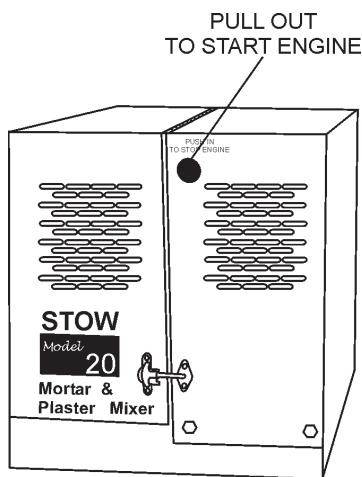

Figure 16. Start/Stop Switch (gasoline)
- Located on the engine cover is the main **start/stop** switch (Figure 16). Pull this switch outward to start the engine.